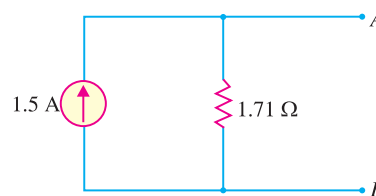

Fig. 1.51
- Fig. 1.51 shows Norton's equivalent circuit of a network behind terminals A and B . Convert it into Thevenin's equivalent circuit. **[2.56 V in series with 1.71 Ω]**